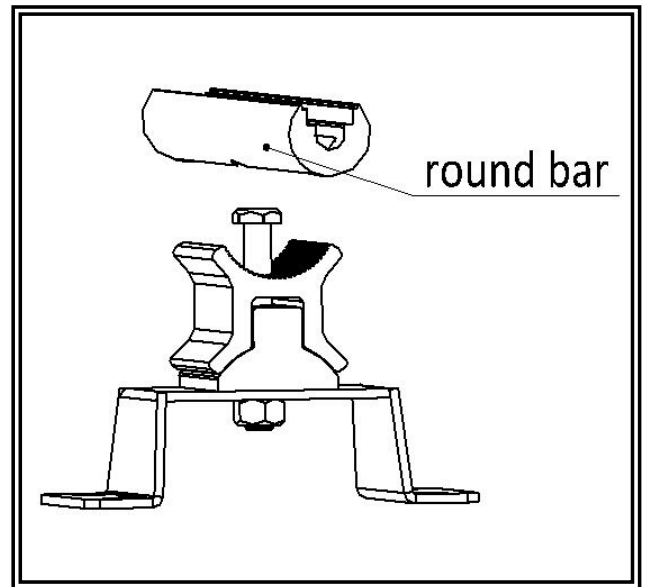

Figure 4
2. Put two finished brackets into the bottom of bracket round bar, then adjust these two brackets in proper position, then fasten it. See Figure 4.